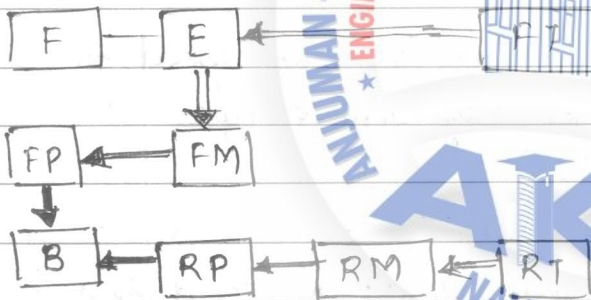

fig 5e Mode 5, Braking or deceleration
- Mode 5: During braking or deceleration (fig 5e) both the front and rear wheel EMs acts as generators to simultaneously charge the battery.